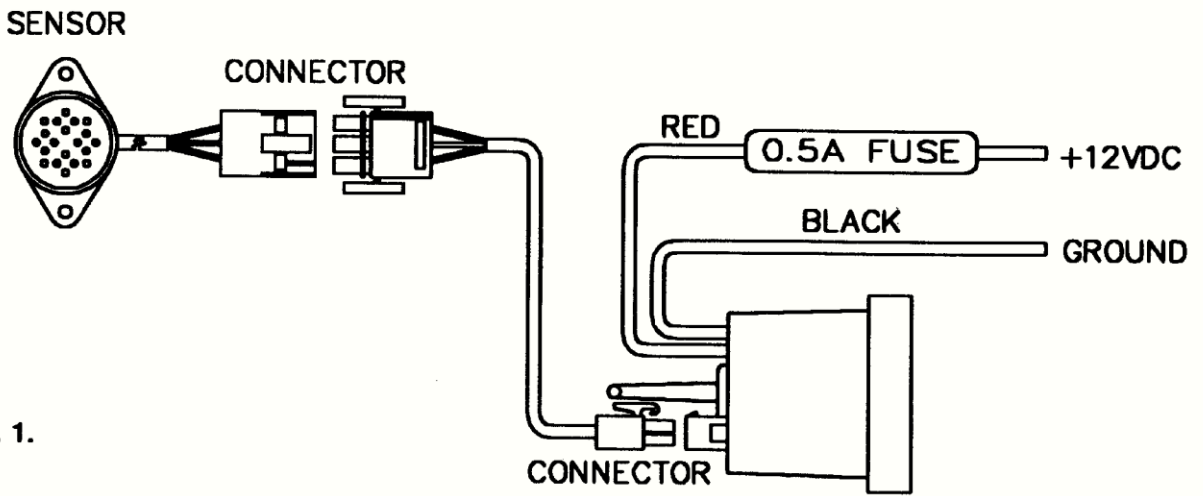

Fig. 1.
3.1 The BLACK wire (see fig. 1) on the control head shall be connected to a suitable ground connection on the instrument buss.
3.2 The RED wire (see fig. 1) on the control head includes a .5 Amp. (1/2 Amp.) fuse and shall be connected to positive at the instrument panel buss.